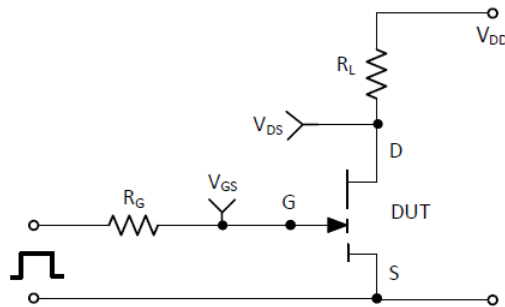
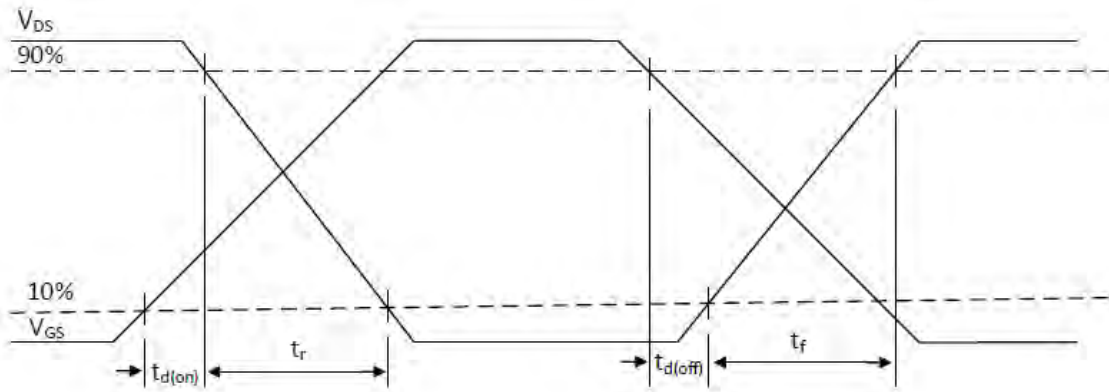

Figure 21: switching time test circuit
Figure 22: switching time waveforms
(7) See Figure 21 and Figure 22 for timing test circuit diagram and definition waveforms.